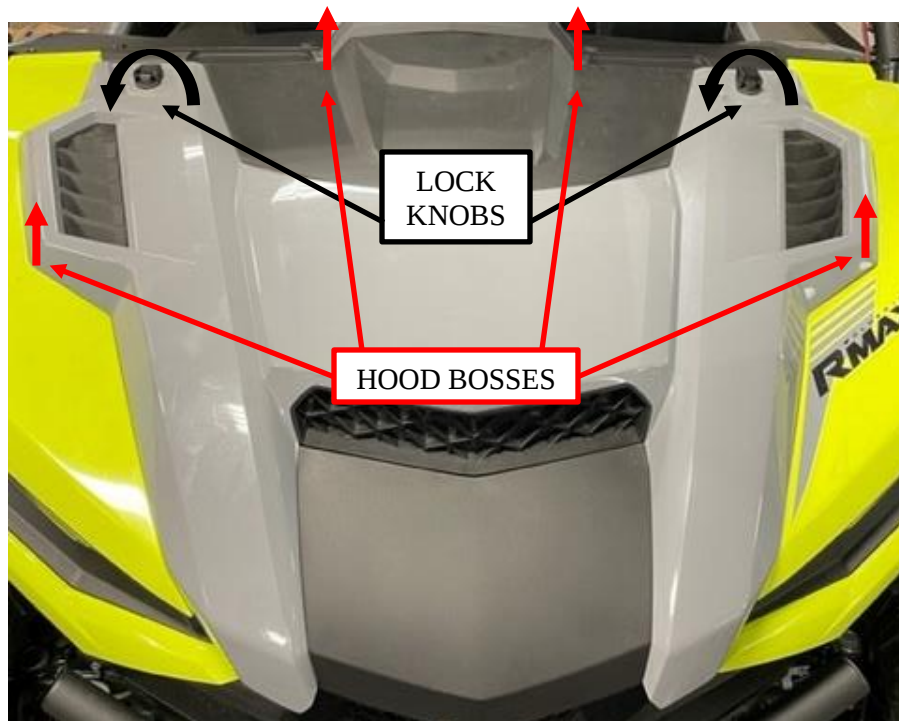
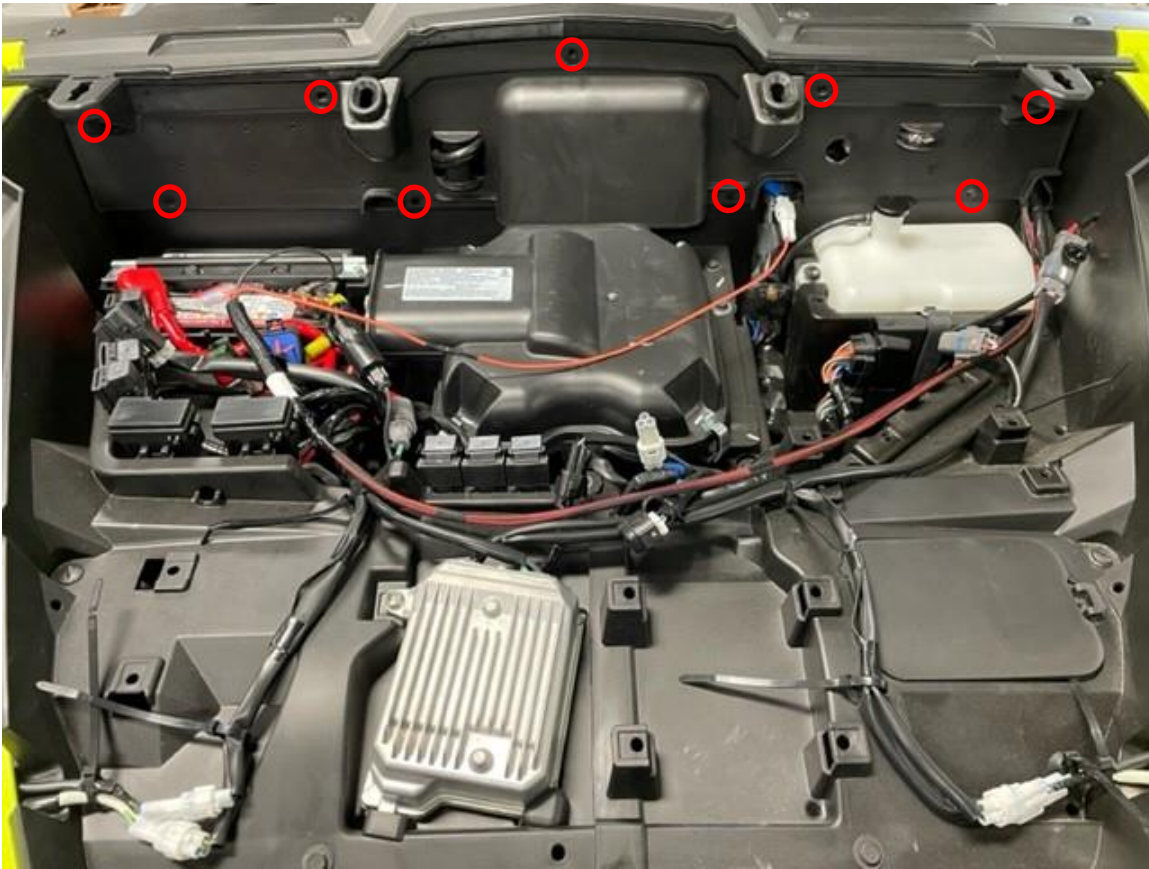

Figure 9: Remove the hood from the vehicle.
Figure 10: Remove the torx screws and plastic panel.
8. Remove the hood from the front of the vehicle by lifting and rotating the lock knobs, lifting to release the 4 bosses, and sliding towards the front of the vehicle. See Figure 9.
9. Remove the plastic panel to gain access to the area under the dash. Remove the 9 torx screws to remove the panel. See Figure 10.
16. Reinstall the torx screws and hood. See Figure 9, Figure 10, and Figure 12.